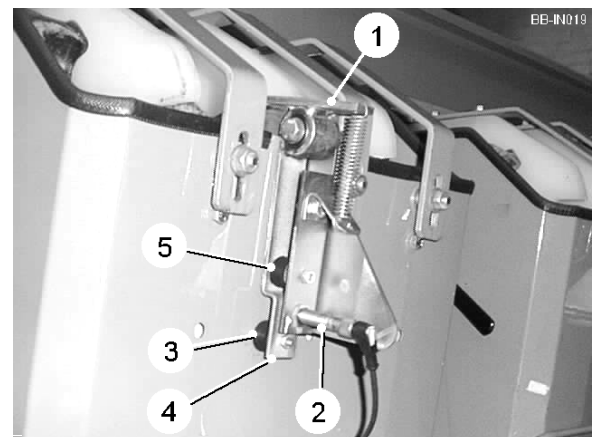

Fig 18
The seed monitors should be adjusted so that the potatoes in the RH cups of each cup belt consistently trip the pivot plates (item 1, figure 18) thus activating the proximity sensors (item 2, figure 18). Initially the bottom stop (item 3, figure 18) should be adjusted so that a gap of approximately 3mm exists between the pivot plate (item 1, figure 18) and the inner face of the tunnel. Loosen the proximity sensor retaining nuts and slowly move the sensor closer to the sensor plate (item 4, figure 18) until it activates. When activated a red light appears on the sensor body. Screw the sensor out until the sensor deactivates and continue for another half turn then retighten the retaining nuts. This setting should leave a gap of approximately 1-2mm between the proximity sensor and the sensor plate. Finally, adjust the top stop (item 5, figure 18) to prevent the sensor plate coming into contact with the proximity sensor. If everything is adjusted correctly the proximity sensor will be activated and deactivated with only a slight deflection of the seed pivot plate (item 1, figure 18).